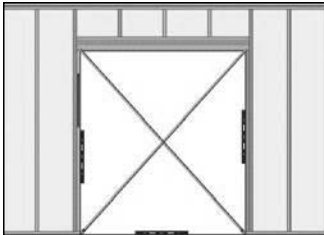

FIG. 4
- B) Verify the rough opening is plumb, level and square. For doors with clad exterior casings, additional nailer studs may be required around the perimeter of the rough opening. (Fig. 4)
- C) Take diagonal measurements to check for square. (Fig. 4)
- D) Make sure the bottom sill area of the rough opening is flat and level. Correct rough opening if sloped toward the interior, out of level or humped. (Fig. 4) **Sill must be within 1/8" of level for every 10' of sill length.**
- D) The post interlock seals the doors to the building and are supplied with the unit. They also require a continuous plane of building material for mounting. (Fig. 4)